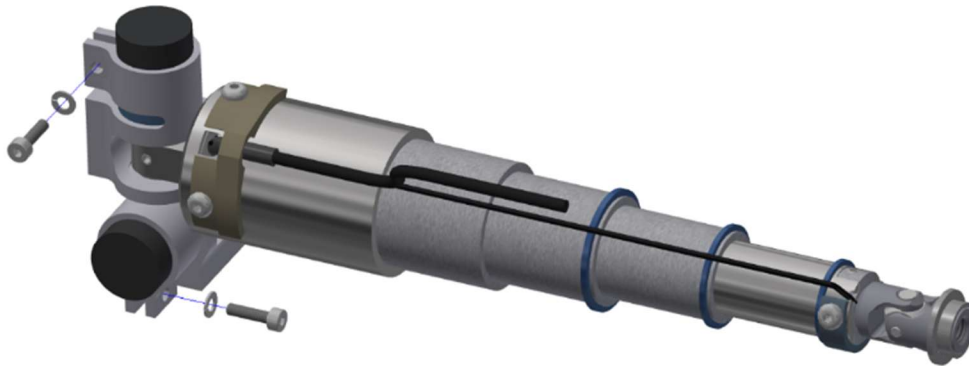

Figure 5-29. Remove the two M2 X 0.4 X 8 LG. SHCS from the potentiometer shafts
- 5.2.24 Remove the M2 X 0.4 X 8 LG. SHCS and M2 Split Lock Washer SS from the IR-TRACC Base (474-3762) and the IR-TRACC Arm Mounting Bracket (474-3763) per assembly (Figure 5-29).